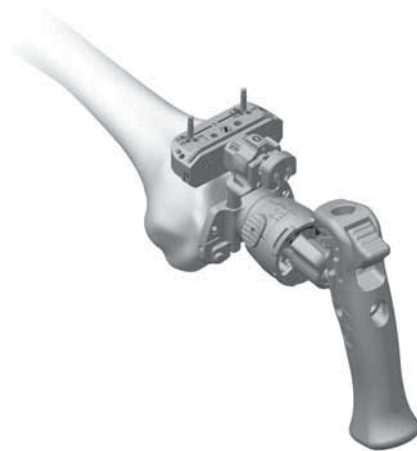

Fig. 12
- Insert a Trocar Tipped Pin through each of the standard pin holes marked '0' on the anterior surface of the Cut Guide (Fig. 12).